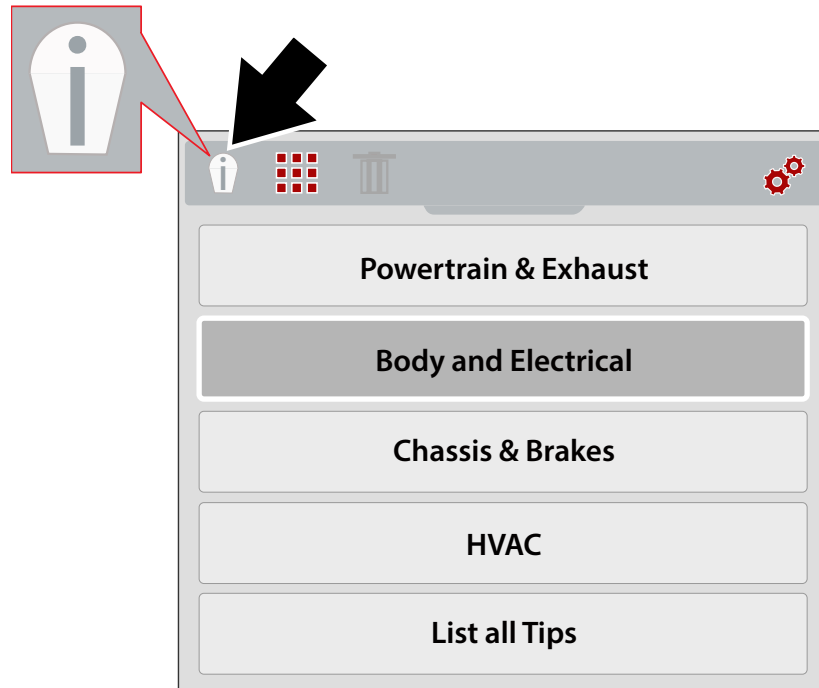

Figure 3-12 Expert Tips Menu (Systems)
2. Use the **Left** and **Right** (arrow) buttons to select the **expert tips** icon from the toolbar (Figure 3-12).